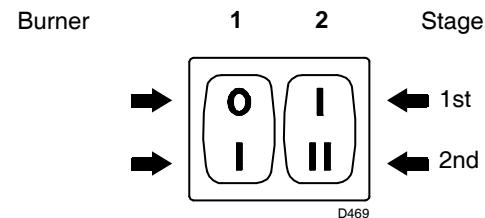

Fig. 20
- Start the burner by closing the control devices and with switch 1) (Fig. 20 page 19) in the "ON" position. The pump must rotate in the direction of the arrow marked on the cover.
- The pump can be considered to be primed when the light oil starts coming out of the screw 3). Stop the burner: switch 1) (Fig. 20 page 19) set to "OFF" and tighten the screw 3).
Set switch 1)(Fig. 20) to "ON".